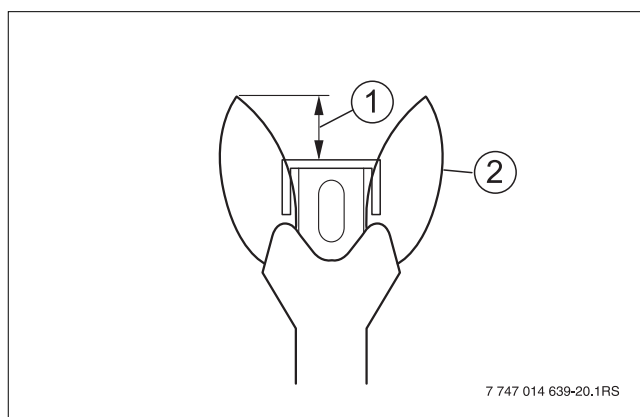
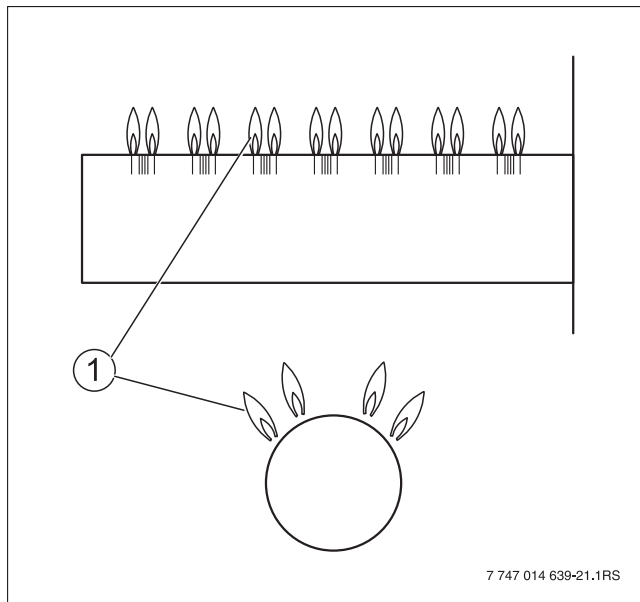

Fig. 12 Correct pilot flame setting
Fig. 13 Main burner
- The flame must envelope the flame rod 1/2 to 1 1/2 Inches (15 to 40 mm) (→ Fig. 12). If this is the case, continue with Chapter 4.3.4, page 11.
The main burner flame (→ Fig. 13) and the ignition flame (→ Fig. 12, page 10) are extinguished.